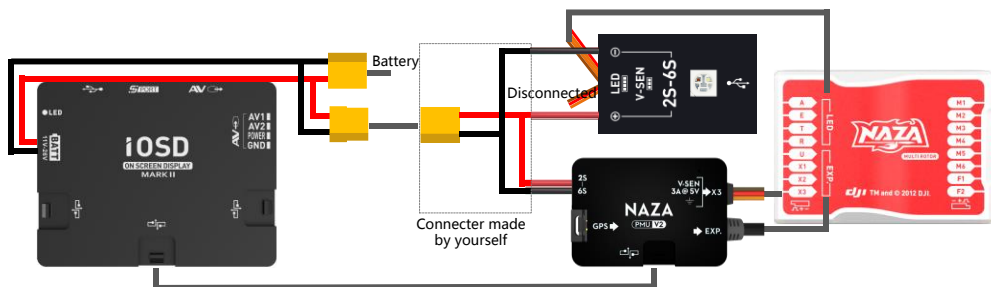

Fig.1 Connection between iOSD and the NAZA-M
- (1) NAZA-M (Fig.1): Make a connector to connect the PMU V2 (NAZA-M V2 Accessory), iOSD, VU and battery.